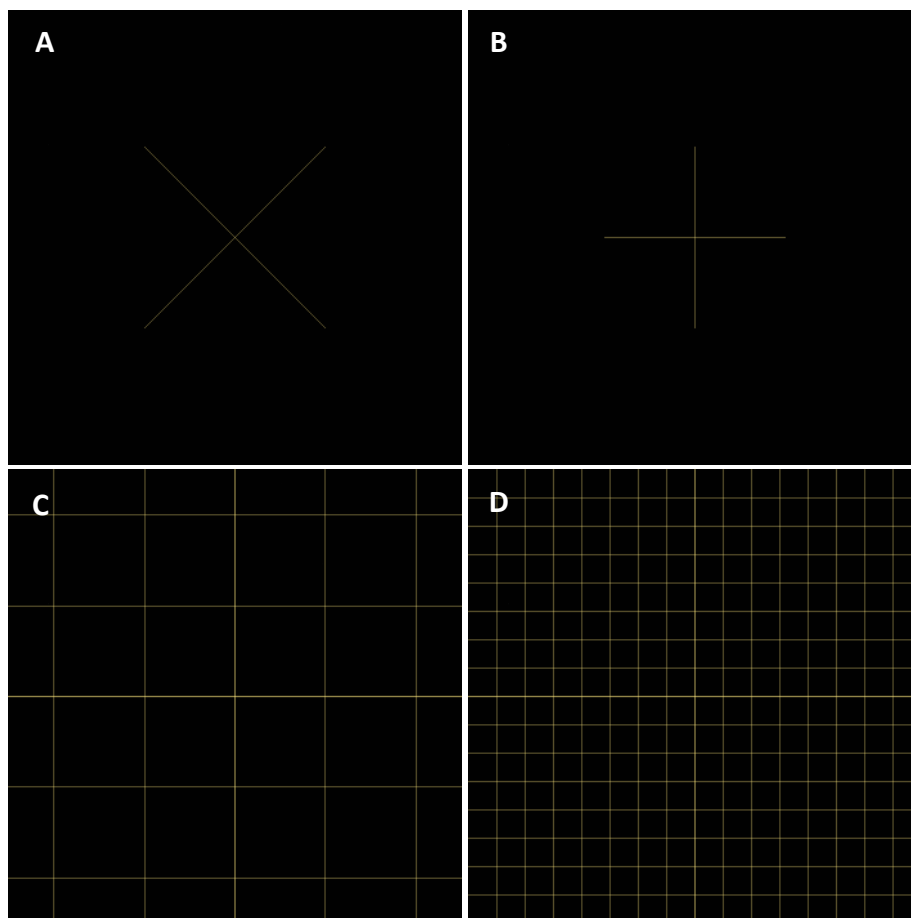

Figure 27 – Grid lines patterns
- Center Cross (x) – see Figure 27 (A)
- Center Cross (+) – see Figure 27 (B)
- Grid lines – see Figure 27 (C)
- Fine grid lines – see Figure 27 (D)